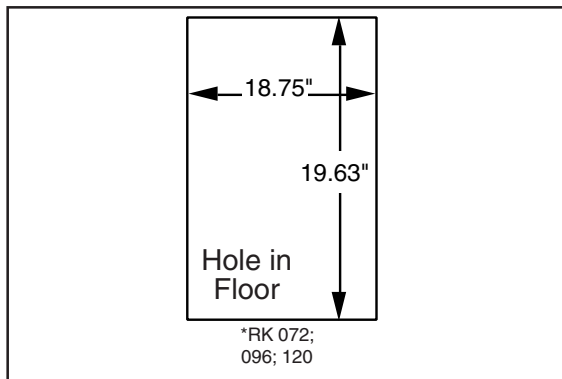

Figure 4. Opening in Wood Floor
1. Cut and frame the hole in the floor per the dimensions in Figure 4.
Figure 4). It is recommended for further reduction of fire hazard that cement board or sheet metal be placed between the furnace and the combustible floor and extend 12 inches beyond the front of the louvered door.